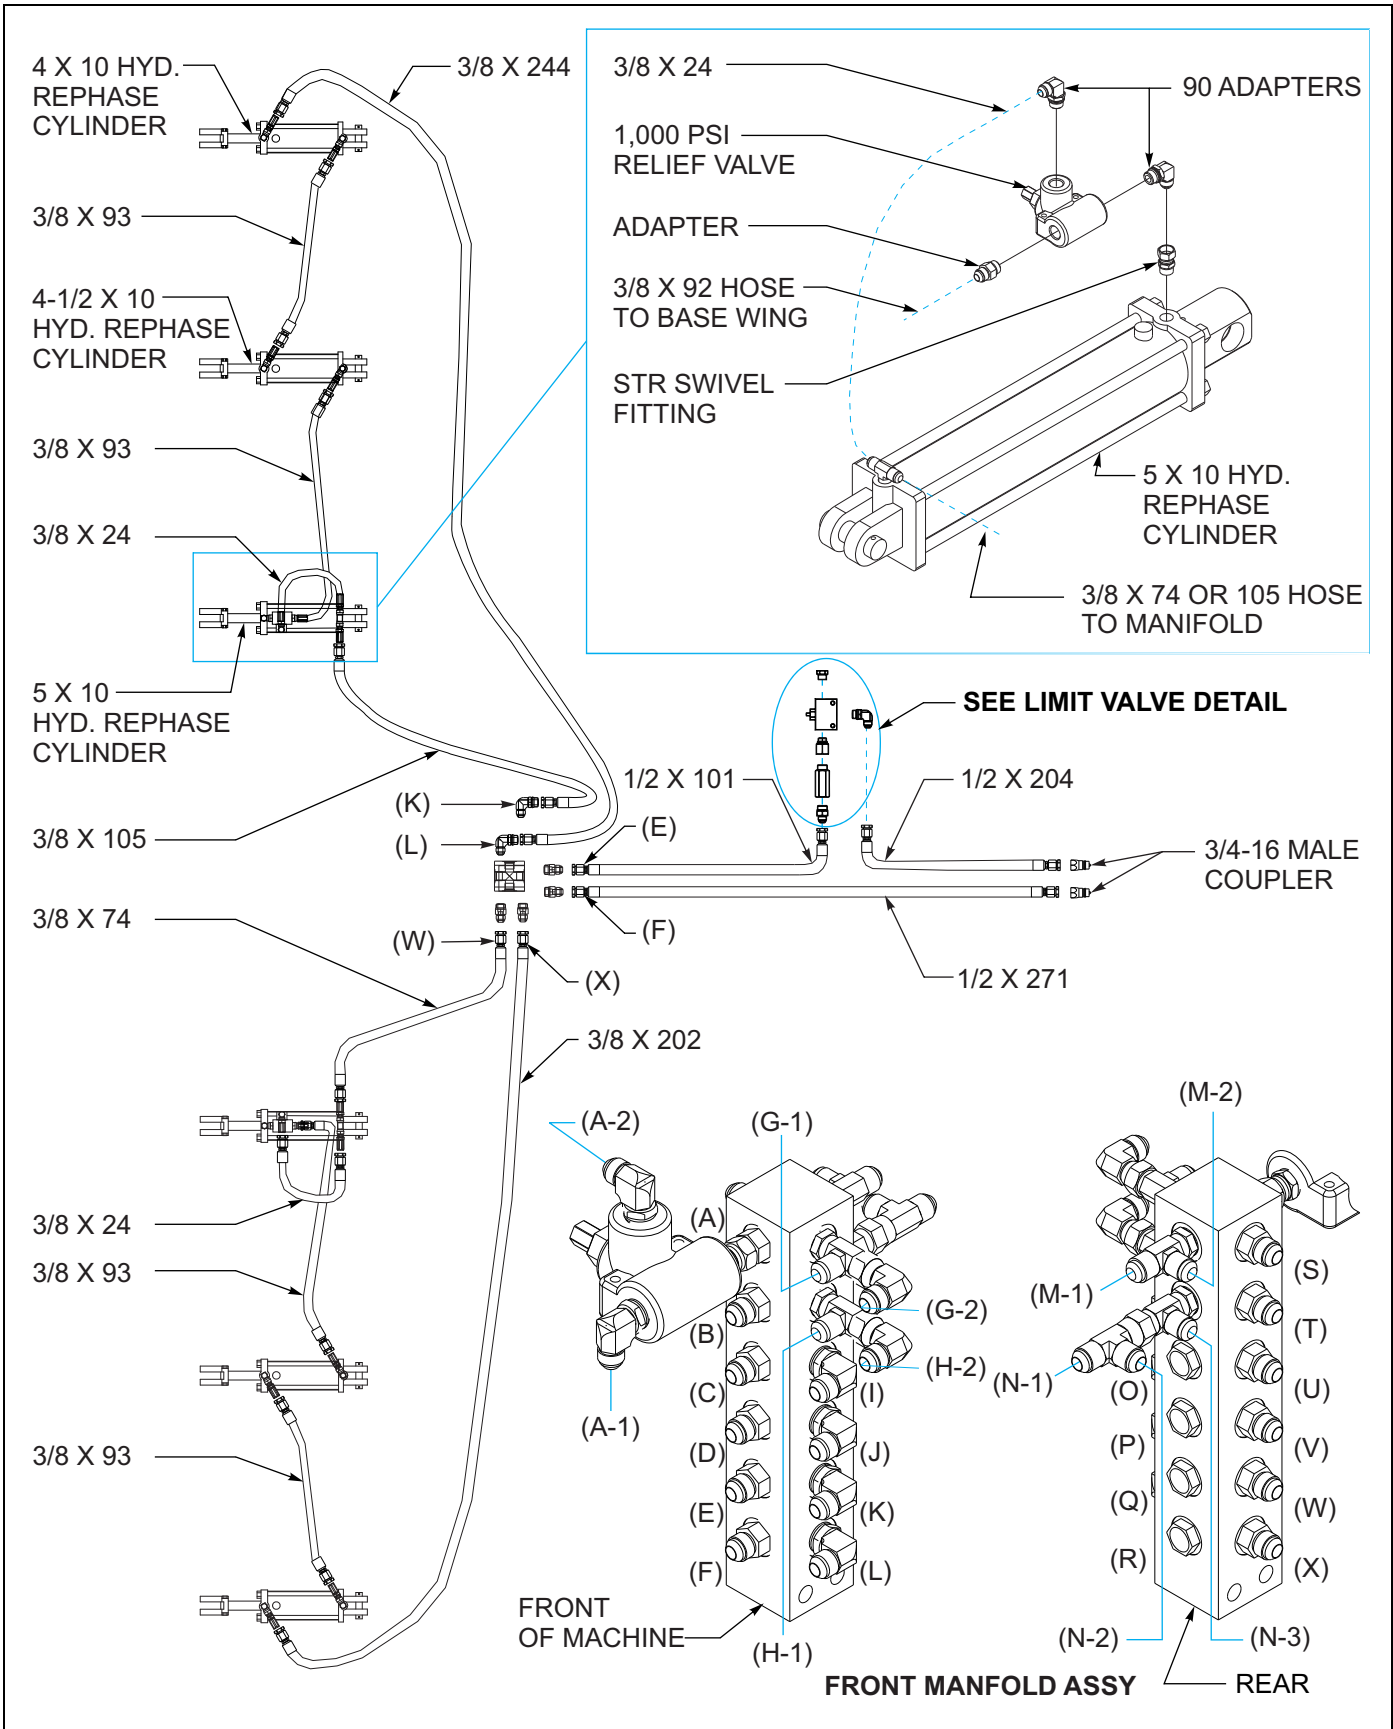

Figure 3-29: Hydraulic Lift Installation - 38'
2. Install 90 degree regular adapter fittings in both ends of inner and outer wing lift cylinders. Install a tee into the base end of the master lift cylinders on the center frame and the fittings to install the relief valve onto the rod end (**See Figures 3-29 thru 3-31.**)
1. Attach the Finisholl to a tractor sized for field operation and connect the lift cylinder hoses. Charge the lift system with hydraulic oil **(See Figure 3-29.)**